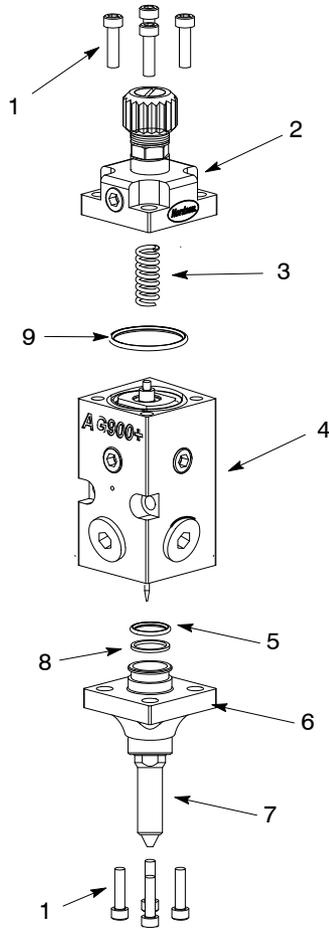

Figure 7: AG-900+/AG900+S Applicator Assembly
3. See Figure 7. Remove the four socket head screws (1), from the air cap (2) and then lift the cap and spring (3) free of the applicator module.